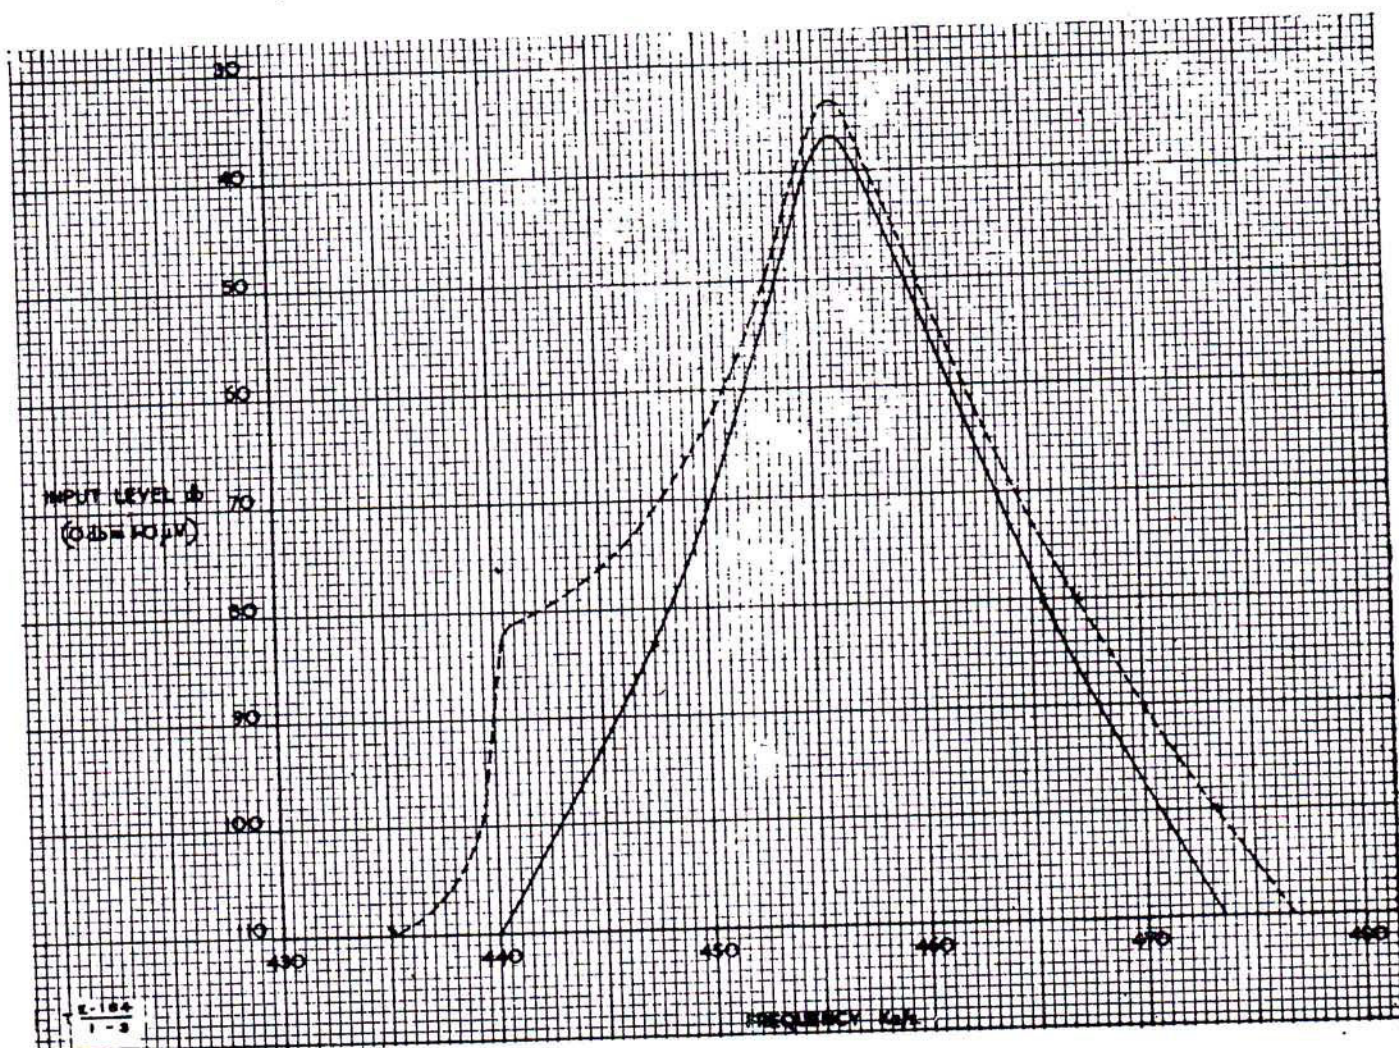

Fig 3 - I.F. Response curve
26. The I.F. response must be symmetrical and free from double humping. If either of these faults appears to be present, plot the entire I.F. curve. A specimen curve is reproduced at Fig 3. The dotted portion shows incipient double humping. This can be cured by careful adjustment of C48 but as this trimmer seriously affects the gain of the amplifier, a compromise must be made between gain and ideal curve shape. Asymmetry can be cured by very slight adjustments to the other I.F. transformers; increasing the primary capacitance and decreasing the secondary - or vice versa - will usually clear the fault.